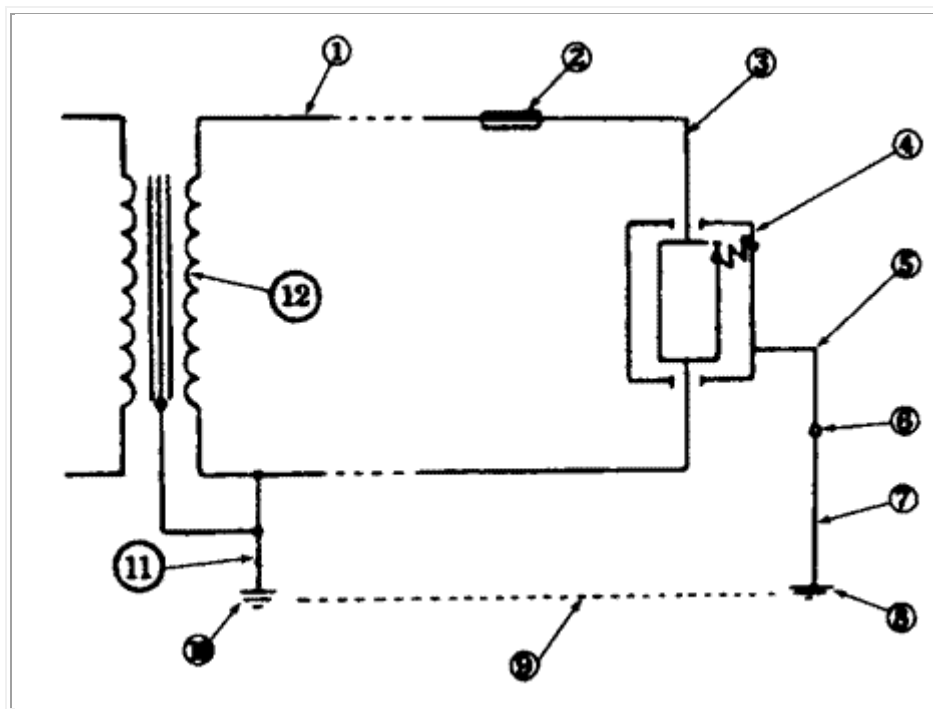

Fig.6 The earth fault loop
- The extent of the earth fault loop for a TT system is shown in {Fig .6}, and is made up of the following labelled parts.